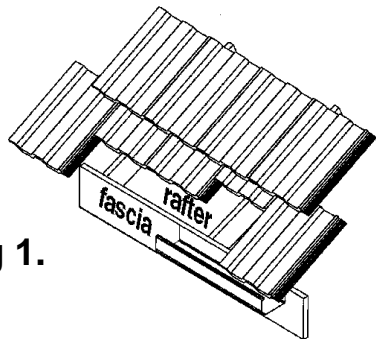

Fig 1.
- 1 Slip three (3) tiles to expose two (2) rafters as per fig1.